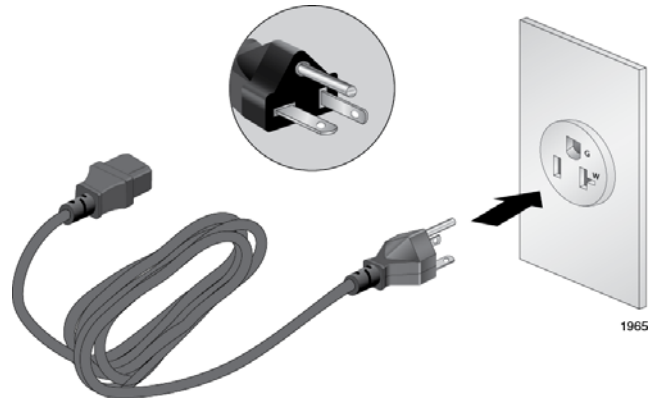

Figure 6. 100 - 125 VAC 125 V NEMA 5-20 Plug and Receptacle
- The power cords provided with the AT-SBxPWRSYS1 and AT-SBxPWRPOE1 Power Supplies for some regions, including North America, have 20 Amp, 125 V NEMA 5-20P plugs. The plug is only compatible with a NEMA 5-20R receptacle. See Figure 6 on page 19.